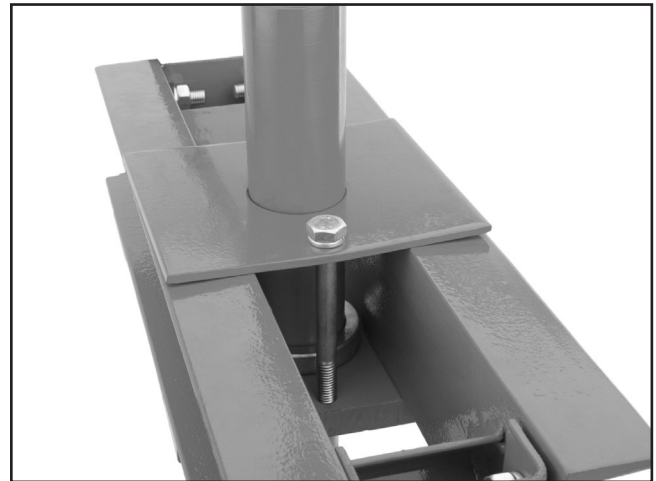

Figure 6. Attaching the pressure head assembly.
7. Clamp the pressure head assembly to the crossbar with M10-1.5 x 130 hex bolts with lock washers as shown in **Figure 6**.